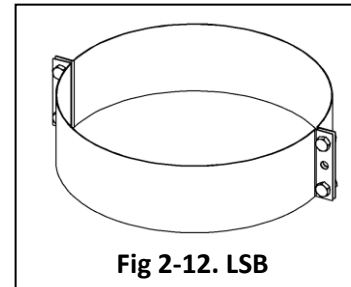

Fig 2-12. LSB
The band firmly clamps around the pipe outer jacket and includes four (4) 1/4" x 20 stainless steel nuts and bolts. Remaining hole in the middle where wires or threaded rods (by the installing contractor) are used for support or guiding back to the building structure. See Fig 2-12.